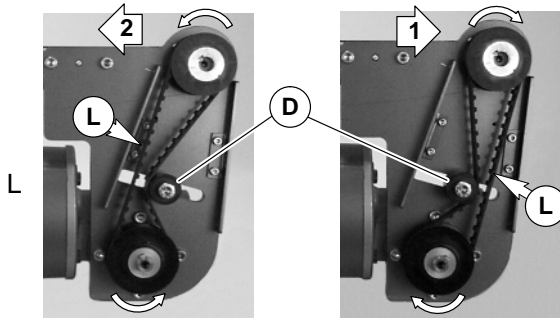

Figure 6
6. Reinstall tensioner (D of Figure 6). Depending on conveyor belt travel (direction 1 or 2), locate timing belt tensioner (D) as shown. Tension timing belt to obtain 0.125" (3 mm) deflection for 1.0 lb (456 grams) of force at timing belt mid-point (L). Tighten tensioner screw to 103 in-lb (12 N-m).